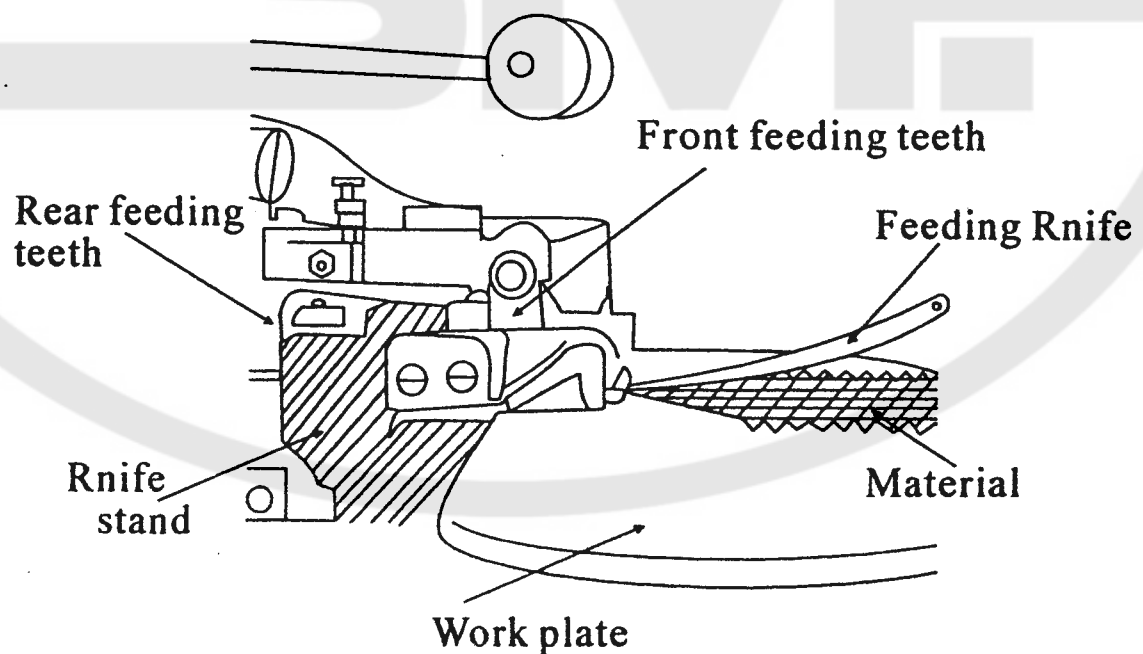

Fig.5
2.Press the rod. Leave the space between presser foot and feeding material retainer. Rotate the belt wheel, which makes front and rear feeding teeth rise. Feed the material into the front part of the feeding teeth with feeding cutter. Then the material is carried to the rear part of the feeding teeth:(Fig.5)